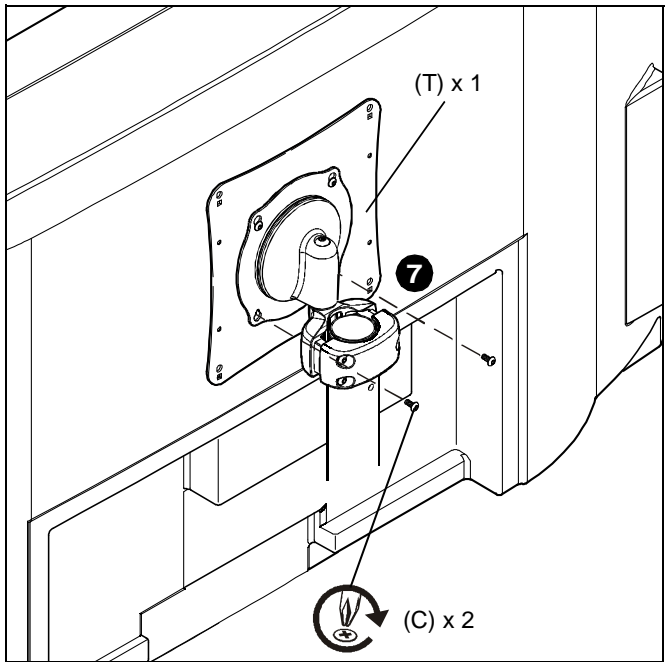

Figure 10
7. Hold display so that interface bracket is against mounting plate and install two Phillips pan head machine screws (C) through lower mounting holes in mounting plate and into lower mounting holes in interface bracket. (See Figure 10)